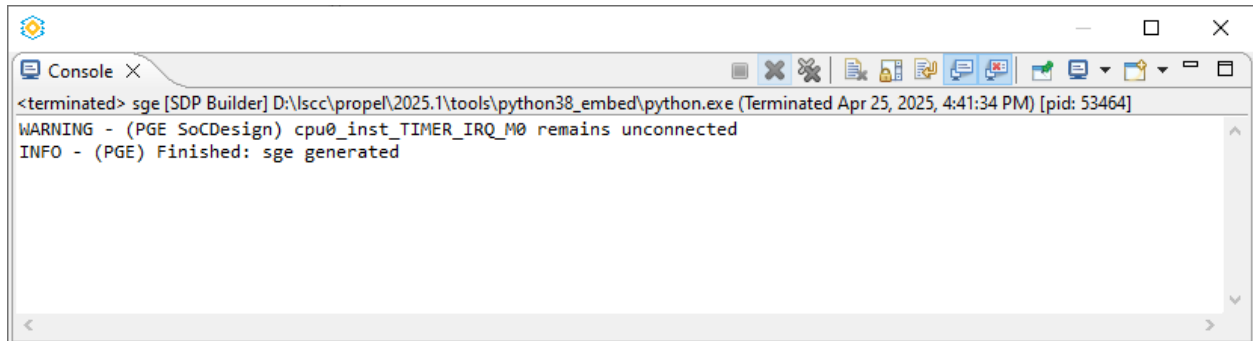

Figure 3.22. Build Result of SoC Project
3. Check the building result in the **Console** view (Figure 3.22).